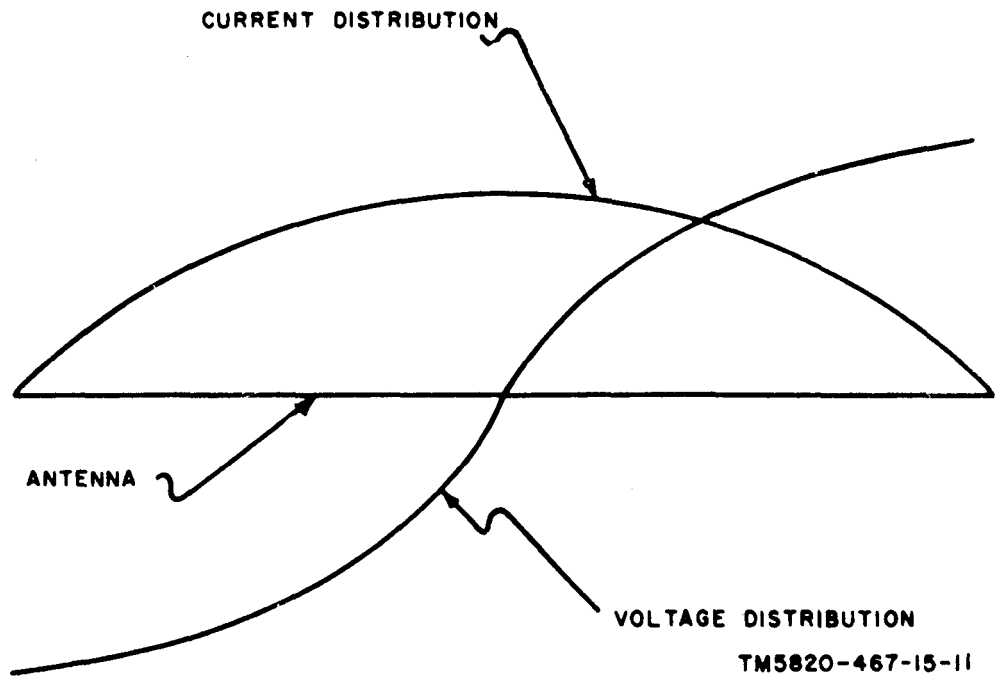

Figure 11. Current and voltage distribution in half wave antenna.
a. Basic Half Wave Antenna. During transmission, the rf current in the antenna wire produces a radiated field. During reception, a radiated field from a distant station antenna cuts the antenna wire and causes a current flow in the wire. In a half wave antenna, current is maximum at the center and minimum at the ends, while voltage is minimum at the center and maximum at the ends (fig. 11); therefore, impedance is minimum at the center and maximum at the ends. The impedance at the center of a basic half wave antenna is 72 ohms. The current distribution in the antenna is the same regardless of the amount of current flow; the amplitude of the current at any point on the antenna varies directly with the amplitude of the signal voltage.